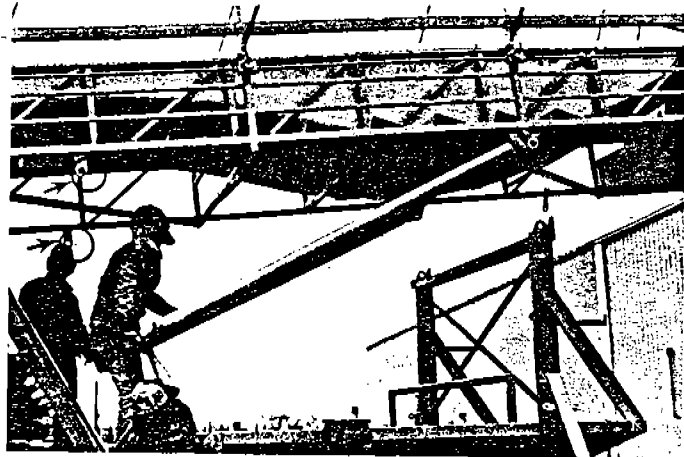

Fig. 34
- b. Remove the pins that hold the support arms against the sides of the upper slide frame. (Fig. 34)